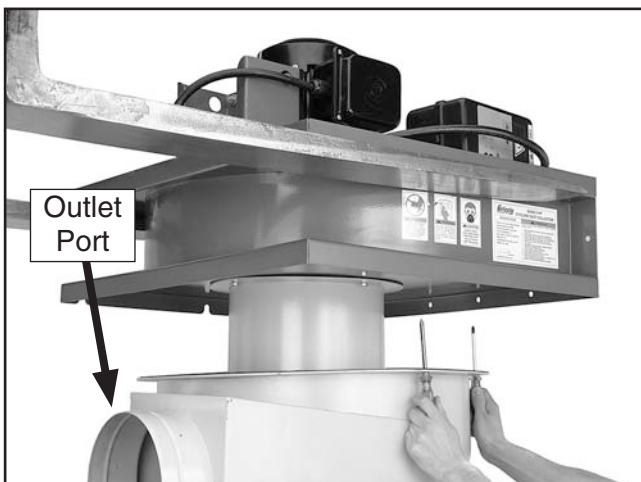

Figure 21. Aligning the mounting holes.
15. Using two punches or Phillips screwdrivers as alignment guides (see **Figure 21**), lower the blower housing assembly onto the intake barrel assembly.